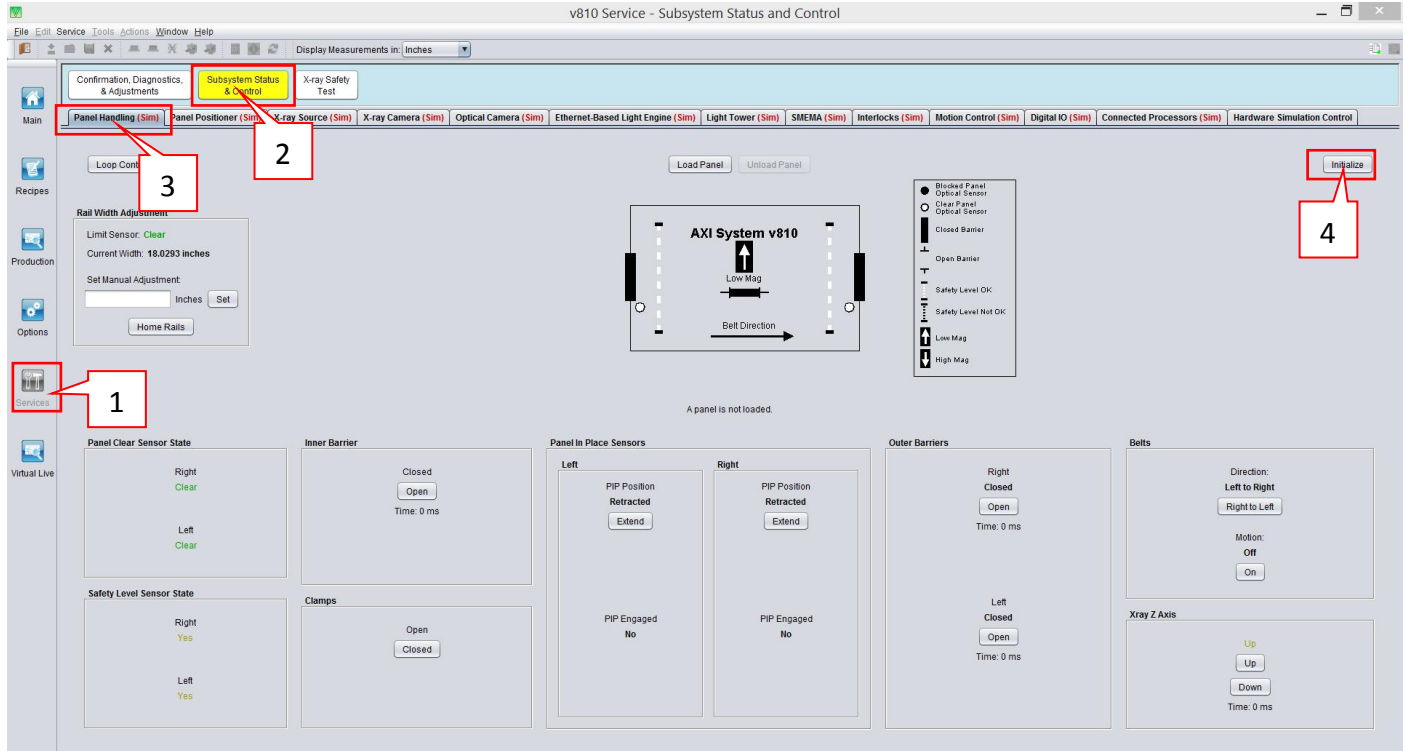

Figure 14 Panel Handling
12. Go to Services > Subsystem Status & Control > Panel Handling > Click “Initialize” as shown in Figure 14